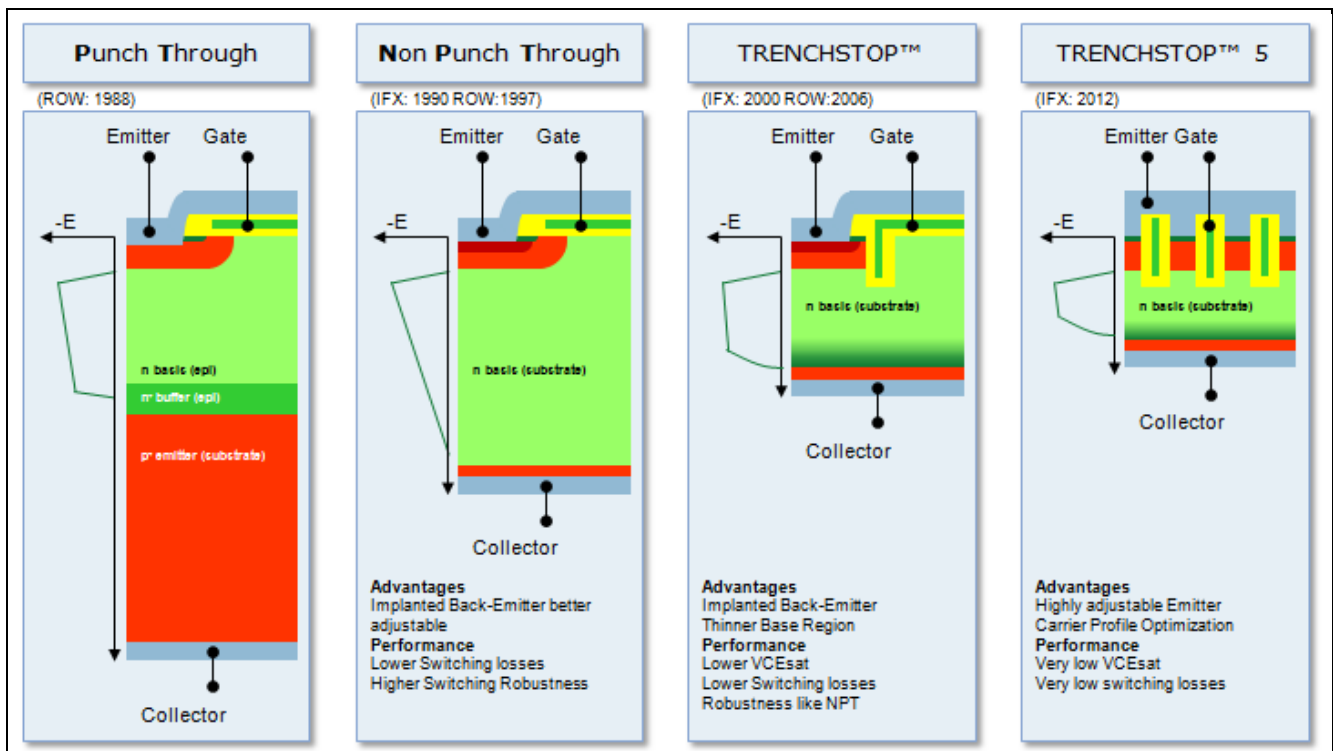

Figure 1 Chronological evolution of Infineon's IGBT technologies
The efficient use of electric power is one of the main drivers for progress in power electronics. IGBT technology has supported this trend by providing application specific device optimizations. Figure 1 shows the chronological evolution of Infineon's IGBT technologies; starting from Punch Through (PT) IGBT, then introducing first Non Punch Through (NPT) IGBT, first FieldStop and Trench cell concepts [1] up to the latest TRENCHSTOP™ 5 Technology [2].
Starting from the TRENCHSTOP™ Technology, as shown in Figure 1, Infineon TRENCHSTOP™ 5 Technology allows achieving unparalleled switching frequency in the applications. This improvement has been possible thanks to the features, implemented within this new technology [1]: